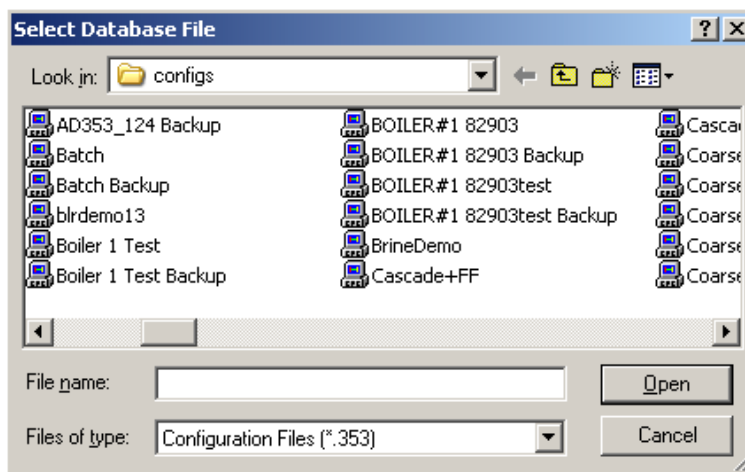

Figure 7-6 Select Database File dialog
1. Select **File > Delete**. The Select Database File dialog displays for deleting a configuration. See Figure 7-6.